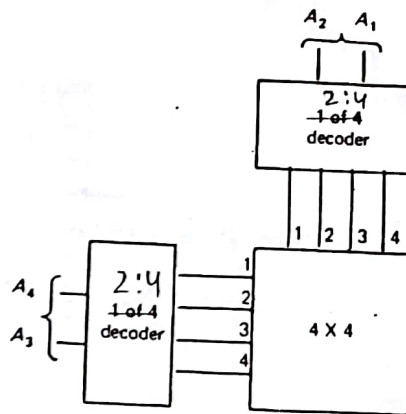

Fig. 12-12
Take another look at the 4×4 memory in Fig. 12-10c. To select a single cell, we must activate one and only one row, and one and only one column. This suggests the use of two of 4 binary to decimal decoders as shown in Fig. 12-12 on the next page. Consider the selection of the cell at address 43 (row 4 and column 3). If $A_4 = 1$ and $\bar{A}_3 = 1$, the
The address decoders shown in Fig. 12-12 further reduce the number of address lines needed to uniquely locate a memory cell, and they are almost always included on the memory chip. Recall that a binary-to-decimal decoder having n binary inputs will select one of 2^n output lines. For instance, a decoder that has 3 binary inputs will have $2^3 = 8$ outputs, or a decoder having 4 inputs will have 16 outputs, and so on.
8. The address applied in Fig. 12-12 is $A_4A_3A_2A_1 = 1010$. What cell is being accessed?